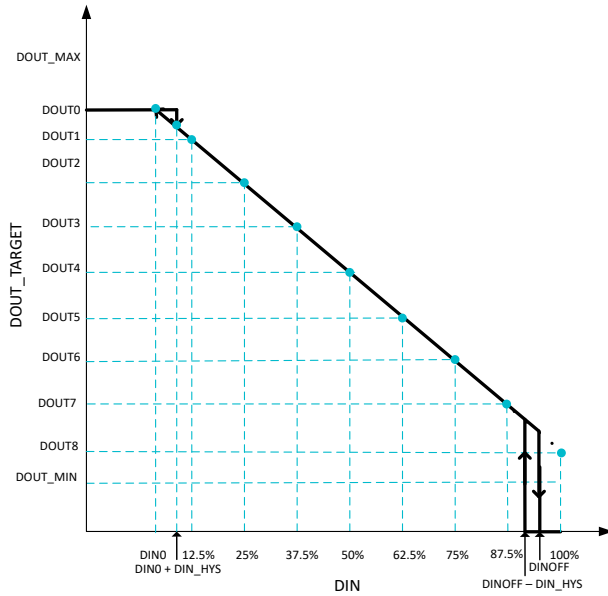

Figure 6-4. Duty Curve - Negative Slope
- **DOUTx**: DOUTx sets the output duty at fixed intervals of input duty. DOUT1 sets the target output duty at  $DIN = 12.5\%$ , DOUT2 sets the target output duty at  $DIN = 25\%$  and so forth such that DOUT8 sets the target output duty at  $DIN = 100\%$ . DOUTx can be used to configure positive slope duty curve as shown in Duty Curve. DOUTx can be also used to configure negative slope as shown in Figure 6-4. DOUTx can also be used to configure mixed slope (positive, negative and zero) as shown in Figure 6-5.